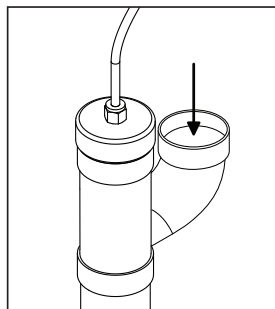

FIGURE 5
- Connect the building vacuum piping system to the curved branch of the Y elbow included in the air intake kit (*figure 5*). Note that the provided Y elbow was not fixed onto the air intake installation to let the installer or you orient it according to your needs. Fix the last fitting of the piping system to the Y elbow and the Y elbow with PVC glue.